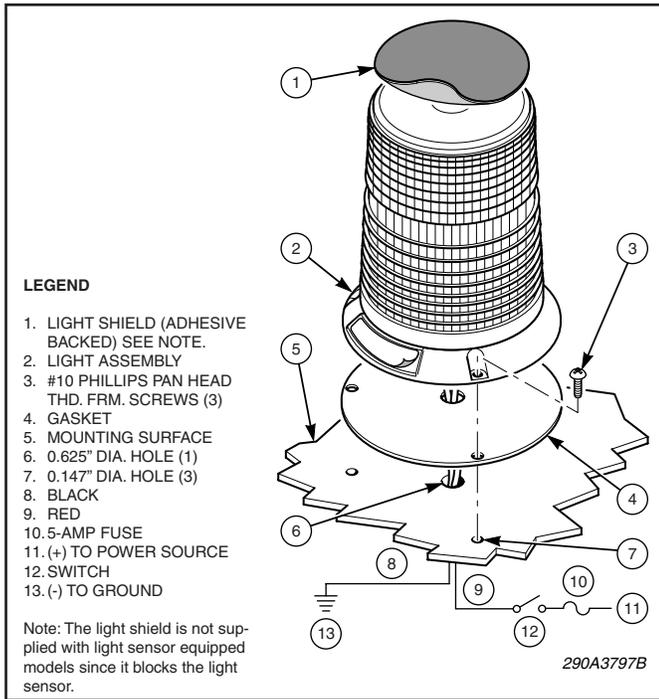

Figure 1.
1. *Permanent Mount.* (see figure 1).
- c. Align the gasket over the four previously drilled holes. Route the red and black wires through the gasket and wiring routing hole as shown in figure 1.
- d. Secure the base to the mounting surface with the #10 Phillips pan head thread-forming screws as shown in figure 1.